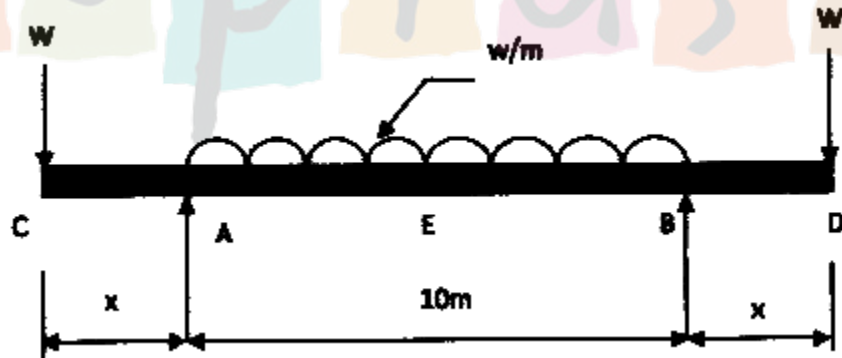

Fig. 3
- (b) A simply supported beam with over-hanging ends carries transverse loads as shown in Fig. 3. If $W = 10 w$, what is the overhanging length on each side, such that the bending moment at the middle of the beam, is zero ? Sketch the shear force and bending moment diagrams. [10]